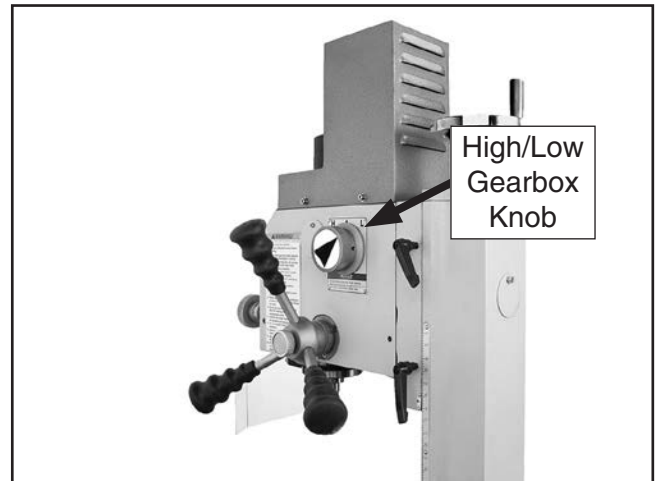

Figure 17. Gearbox knob rotated to low setting.
4. Rotate high/low gearbox knob to low "L" gear setting (see **Figure 17**).